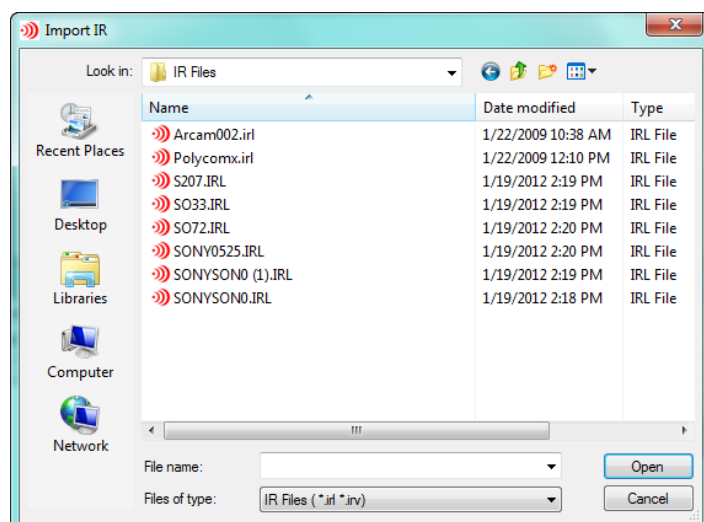

FIG. 33 Import IR dialog
2. Select **File Menu > Import IR File(s)...** This launches the *Import IR* dialog (FIG. 33):